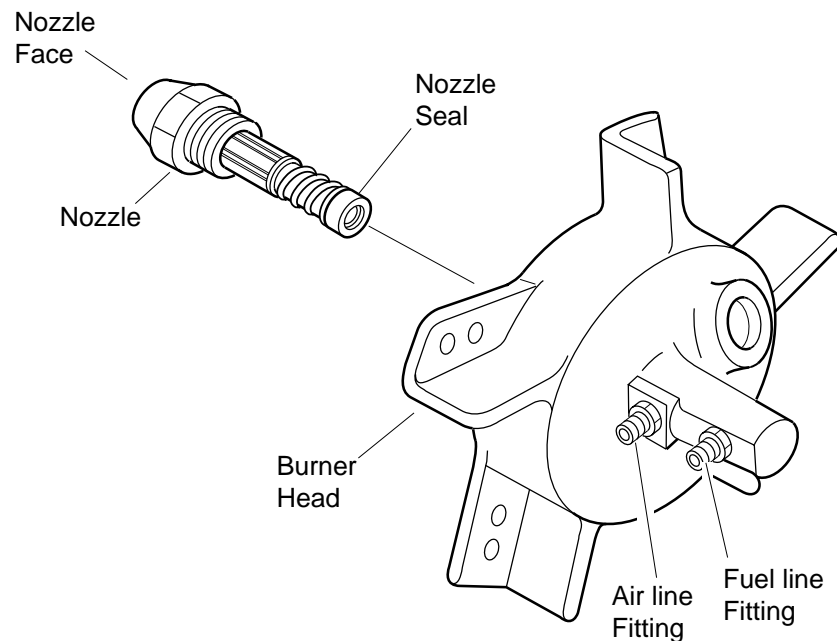

Figure 28 - Removing Nozzle, 20,5/26,4 kW (70/90,000 Btu/Hr) Models
8. Carefully remove nozzle from burner head using 5/8" socket wrench (see Figure 28).